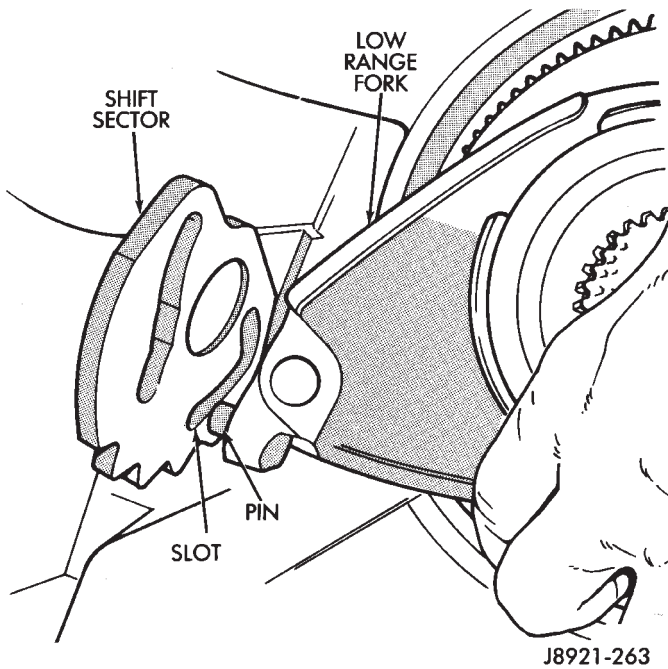

Fig. 57 Positioning Low Range Fork
(24) Position low range fork and hub in case. Be sure low range fork pin is engaged in the shift sector slot (Fig. 57).